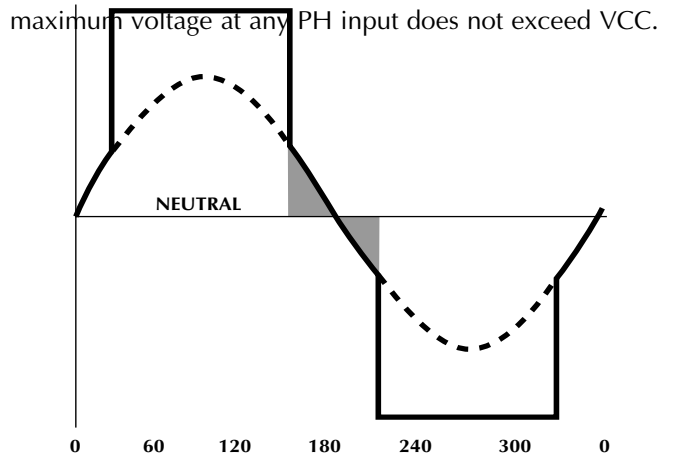

Figure 2. Typical motor phase waveform with Back-EMF superimposed (Ideal Commutation)
The ML4411 contains a patented back-EMF sensing circuit which samples the phase which is not energized (Shaded area in figure 2) to determine whether to increase or decrease the commutator (VCO) frequency. A late commutation causes the error amplifier to charge the filter (RC) on pin 20, increasing the VCO input while early commutation causes pin 20 discharge. Analog speed control loops can use pin 20 as a speed feedback voltage.